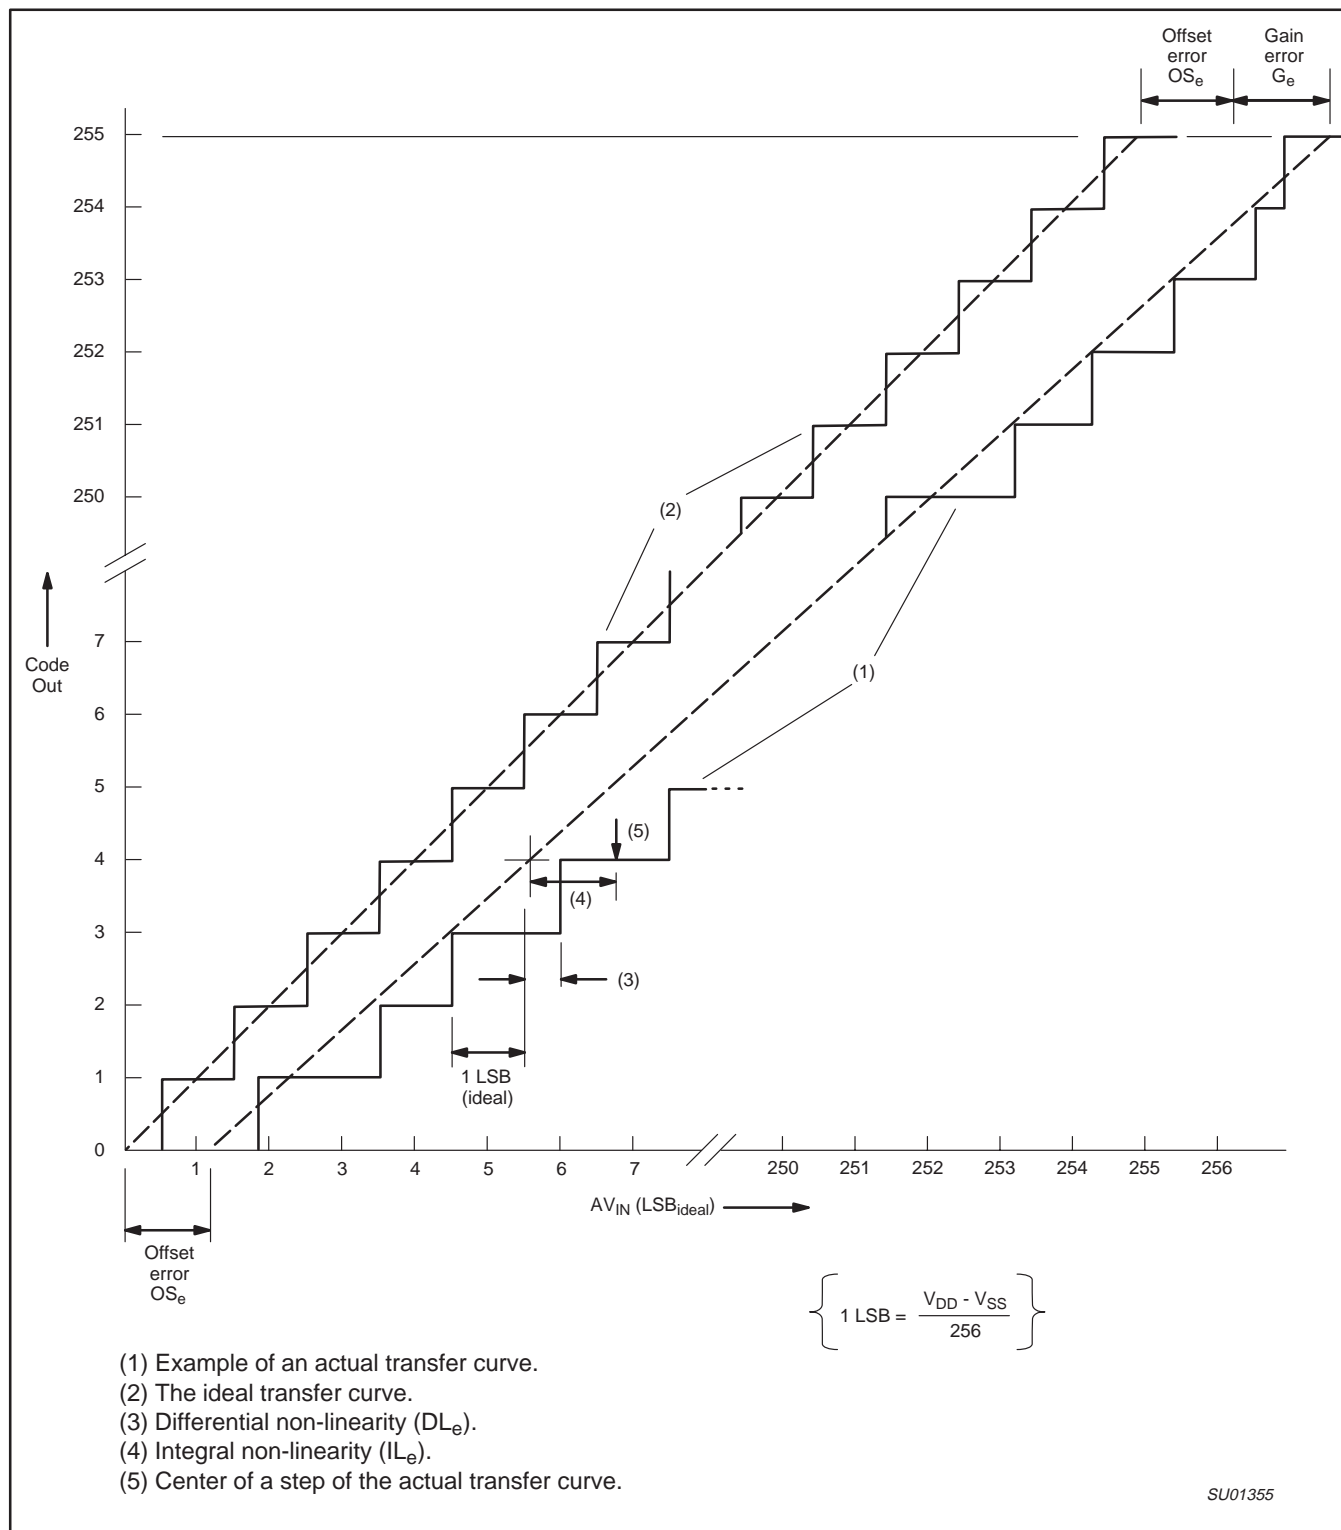

Figure 41. A/D Conversion Characteristics
- The differential non-linearity (DL_e) is the difference between the actual step width and the ideal step width. See Figure 41.
- The integral non-linearity (IL_e) is the peak difference between the center of the steps of the actual and the ideal transfer curve after appropriate adjustment of gain and offset errors. See Figure 41.
- The offset error (OS_e) is the absolute difference between the straight line which fits the actual transfer curve (after removing gain error), and the straight line which fits the ideal transfer curve. See Figure 41.
- The gain error (G_e) is the relative difference in percent between the straight line fitting the actual transfer curve (after removing offset error), and the straight line which fits the ideal transfer curve. Gain error is constant at every point on the transfer curve. See Figure 41.